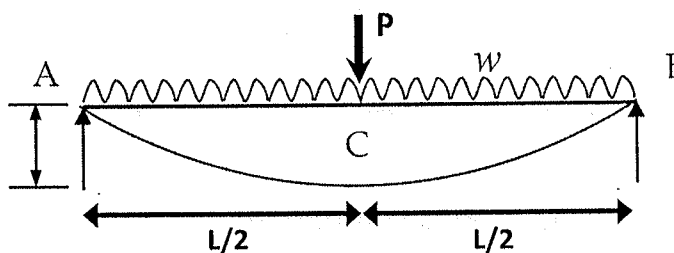

Figure Q2a
- (i) As shown in **Figure Q2a**, Beam AB is subjected to a uniformly distributed load (w) along the beam, and at the midspan a point load (P) is applied. Flexural rigidity of the beam is EI . Using **Mohr's 2nd theorem**, determine the **deflection at beam's mid-point C**. [10 Marks]